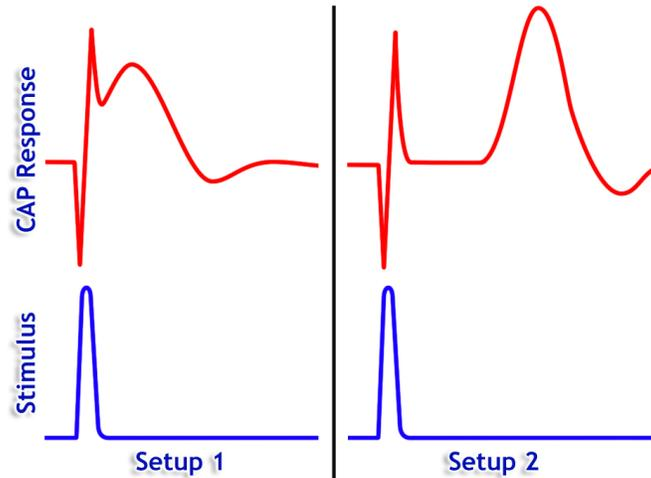

Figure 17
**Note:** The timing and amplitude of the CAP response will vary greatly between setups as shown in Figure 17. You may need to reposition the VIN+ and VIN- leads to optimize the CAP response as follows.